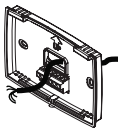

Figure 2
- 5) Pass the wires through the large opening located at the bottom center of the wallplate as per Figure 2.